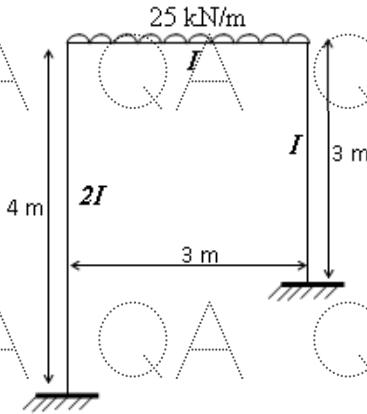

Figure 2
3. Analyse the frame shown in Figure. 2, by moment distribution method. Draw BMD. [10]